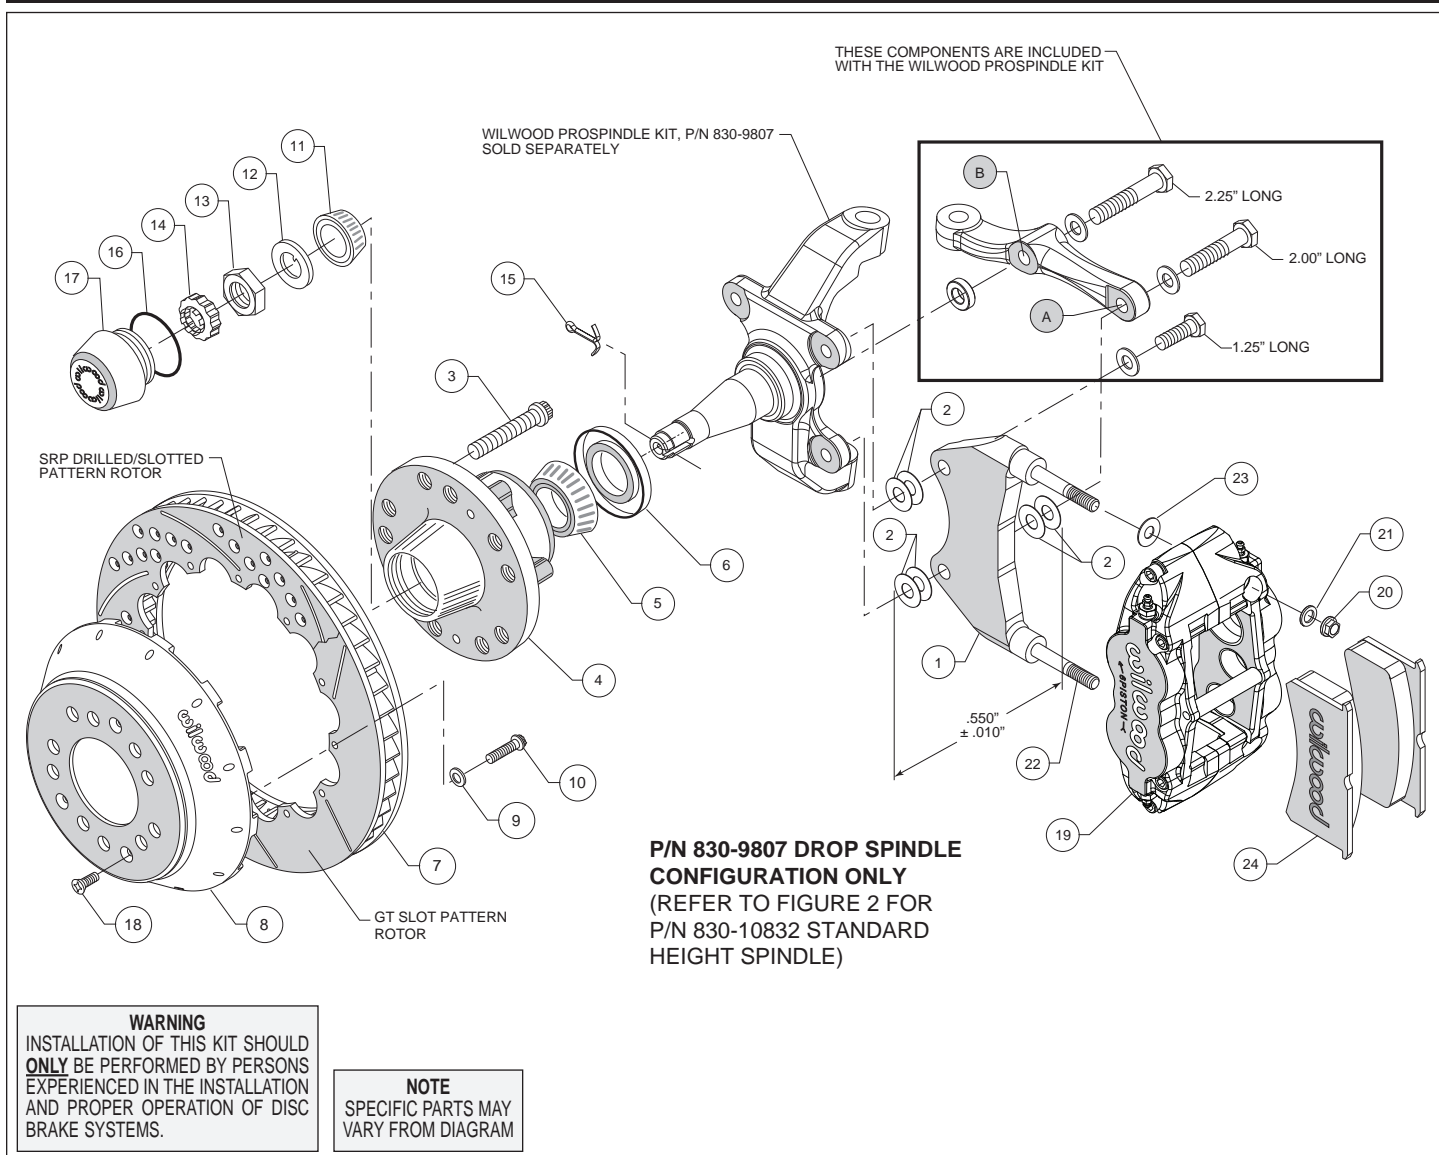
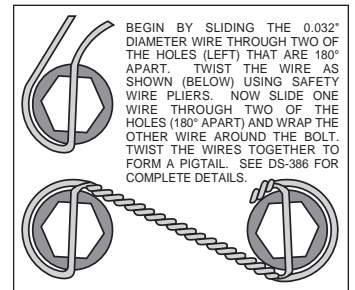

Figure 1. Installation Configuration For Drop Spindle, P/N 830-9807
Figure 4. Safety Wire Diagram
**Assembly Instructions** (numbers in parenthesis refer to the parts list and Figures 1 or 2 on the preceding pages):
- NOTE:** Each Wilwood ProSpindle kit includes bolts, washers, and a spacer to mount the steering arm and caliper bracket. The various bolts are identified by length in the following instructions and in Figures 1 and 2.
**For 2" Drop ProSpindle (P/N 830-9807):** The caliper bracket assembly (1) should initially be installed with clean, dry threads on the mounting bolts.
- Orient the bracket as shown in Figure 1 and Photo 1. Install at top spindle hole using 1.25" long bolt and .06" thick washer (from ProSpindle kit), and two .016" thick shims (2) between the bracket and spindle, Figure 1.
- Orient the steering arm, and identify the hole marked 'A', as shown in Figure 1. Install at bottom spindle hole using 2.00" long bolt and .06" thick washer (from ProSpindle kit), two .016" thick shims (2) between the bracket and steering arm, and another two .016" thick shims (2) between the bracket and spindle, Figure 1. The bracket is located between the steering arm and spindle. **NOTE:** The bracket and shim washers must add up to a total thickness of .550"  $\pm$  .010", Figure 1.
- Finish attaching the steering arm through the hole marked 'B', as shown in Figure 1. Install using 2.25" long bolt, .06" thick washer, and .25" thick spacer (all from ProSpindle kit), Figure 1.
- Install the grease seal (6) by pressing into the backside of the hub (4), Photo 4.
- Orient the rotor (7) and the hat (8) as shown in Figures 1 or 2, and Photo 5. Attach rotor to hat using bolts (10) and washers (9). Using an alternating sequence, apply red *Loctite*® 271 to the threads, and torque to 155 **in-lbs**. For an added measure of security, the bolts may be safety wired using standard 0.032 inch diameter stainless steel safety wire as shown in Figure 4. Refer to Wilwood's data sheet DS-386 (available at [www.wilwood.com/Pdf/DataSheets/ds386.pdf](http://www.wilwood.com/Pdf/DataSheets/ds386.pdf)) for complete safety wire installation instructions.
- Screw dust cap (17) into hub (4), Photo 7. Friction created by the o-ring (16) on the dust cap keeps it from unscrewing.
- Slide the hat/rotor assembly (7/8) onto the hub (4) taking care to align the small countersunk holes in the hat with the small threaded holes in the hub. **NOTE:** The hat must fit flush against the hub face or excessive rotor run out may result. Install three flat head screws (18) through the small holes in the hat (8), Photo 7, and torque to 85 **in-lb**.
- NOTE:** This kit contains distinct right and left hand calipers that must be mounted in a specific direction, as described below. Lubricate the caliper mounting studs (22) with lightweight oil. Initially place one .035" thick shim (23) on each stud as shown in Figure 1 or 2, and Photo 8. Mount the caliper (19) onto the bracket (1) using lock nuts (20) and washers (21), Figure 1 or 2. Ensure that the caliper is mounted so that the largest pistons are at the rotor exit end of the caliper, in relation to the direction of rotor rotation. Temporarily tighten the lock nuts and view the rotor through the top opening of the caliper. The rotor should be centered in the caliper, Photo 9. If not, proceed as follows:
- For the lower bracket mount bolt, if a shim was added between the bracket and spindle, then a shim must be removed between the steering arm and bracket, such that the total thickness of bracket and shims remain equal to  $.550 \pm .010$ ", Figure 1.